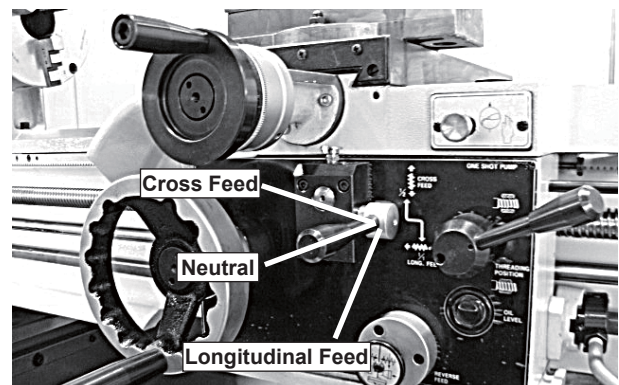

Figure 49. Feed control lever positions.
- Use the feed control lever on the front of the apron to engage power feed for either the carriage or the cross slide (see Figure 49). To engage the carriage, push the lever to the left and down. To engage the cross slide, push the lever to the right and up.